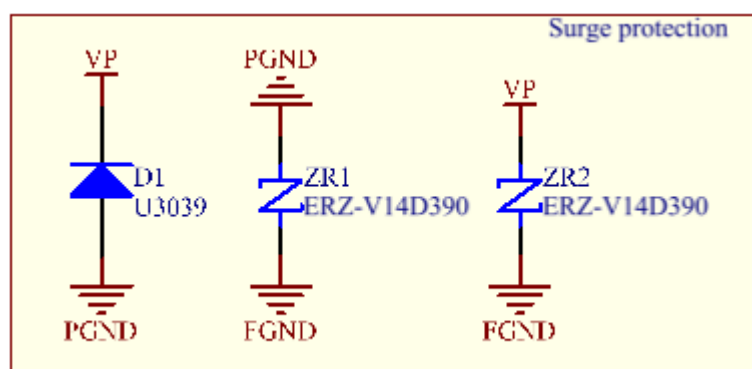

Figure 5-2 Surge Protection Circuit
- Figure 5-2 describes the external reference protection circuit against the lightning surge with a surge level based on IEC61000-4-5, +/-1kV(power supply line to the power supply ground) and +/-2kV(power supply line to the earth).